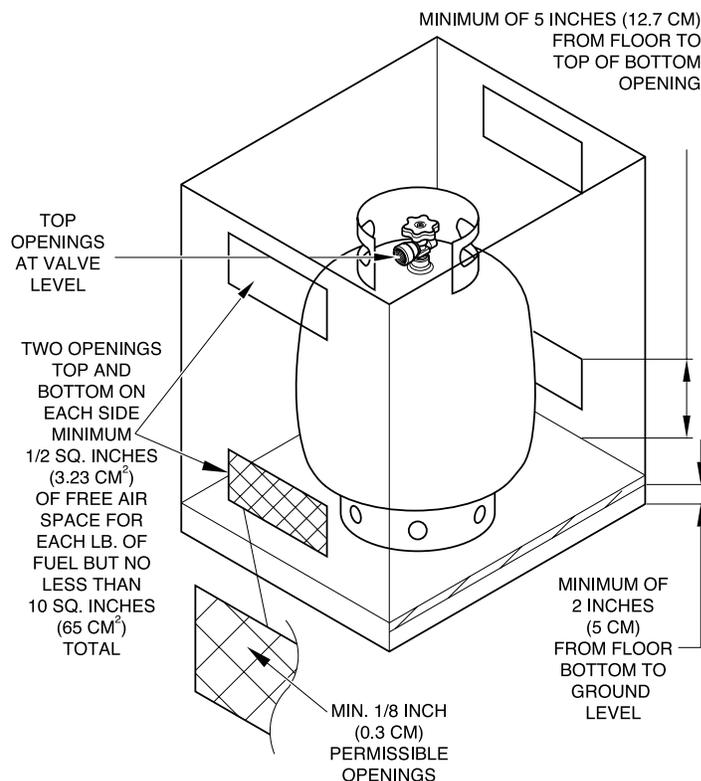

Figure 13 - Propane/LP Tank Enclosure
- An enclosure must have either one open side or at least four opposing vent openings, top and bottom, which meet minimum requirements for size and location (see Figure 13).